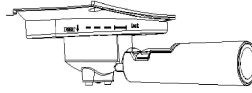

Fig. 1
2. Set coffee powder mesh into metal funnel, then insert the funnel into the appliance from the “Insert” position and release the press bar, and you can fix them into coffee maker firmly through turn it anticlockwise until it is at the lock position.(See fig. 1).
2. Then insert the funnel into the appliance from the "Insert" position, and you can fix them into coffee maker firmly through turn it anticlockwise until it is at the lock position. (See fig. 1).